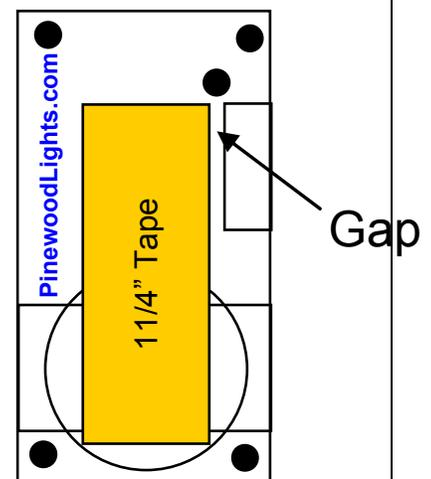

Figure 8.
Step 1: With scissors cut a piece of copper tape 1 1/4 inches long (see the back page for tape lengths). Try to cut it straight across. Carefully remove the backing and place the tape in the center on the front of the board (Figure 8). Start at the top right corner nearest the gap and carefully follow the line downward because the gap is important for proper switch operation.